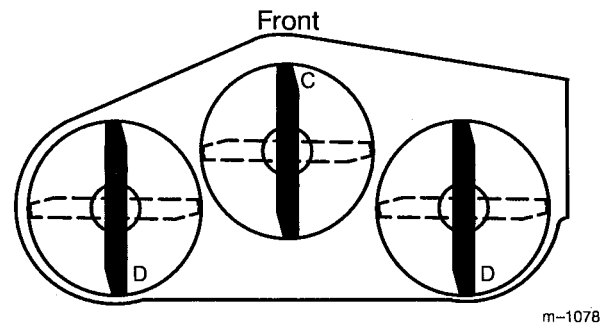
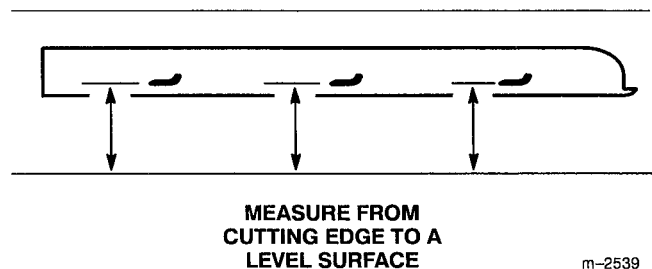

Figure 13
Figure 14
2. Position the blades front-to-rear (Fig. 13). Measure at "C" and "D" locations (Fig. 13) from a level surface to the cutting edge of the blades (Fig. 14).